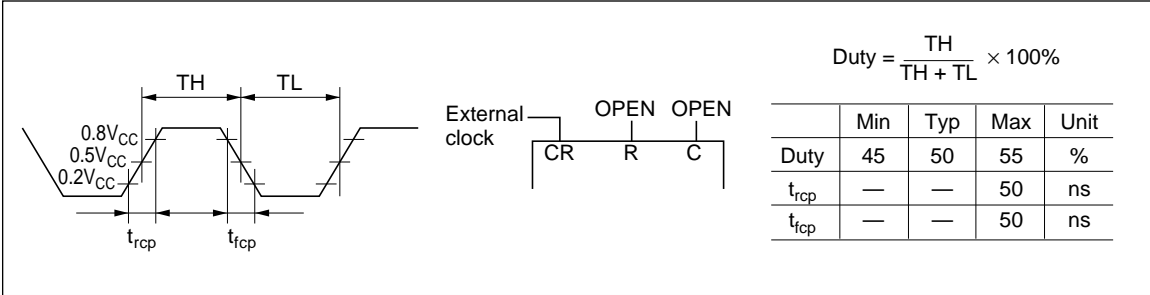

Figure 17 External Clock
4. Figure 17 shows the external clock specifications: